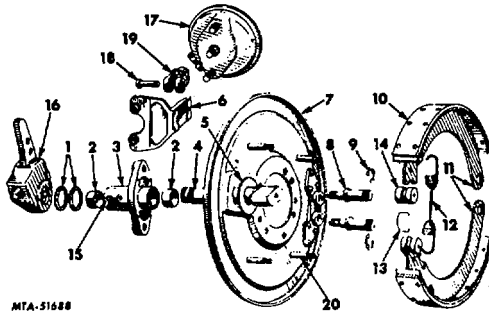
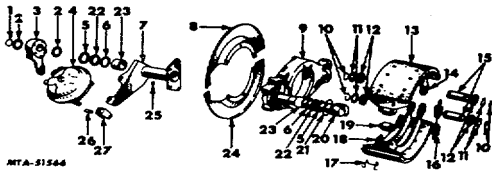

Fig. 2 Exploded View of Front Brake Group
Fig. 3 Exploded View of Rear Brake Group
To disassemble the wheel brakes, proceed as follows, referring to the exploded view of that particular brake group. Fig. 2 illustrates a typical front brake group while Figs. 3 and 4 illustrate typical rear brake groups.
Legend for Fig. 2
6. Remove brake shoes. To remove brake shoes from rear brake groups, the anchors must be removed. To do so, remove anchor pin retainers, felt retainers, felts, lock wire and lock screws or pins (Figs. 3 and 4).
Legend for Fig. 3